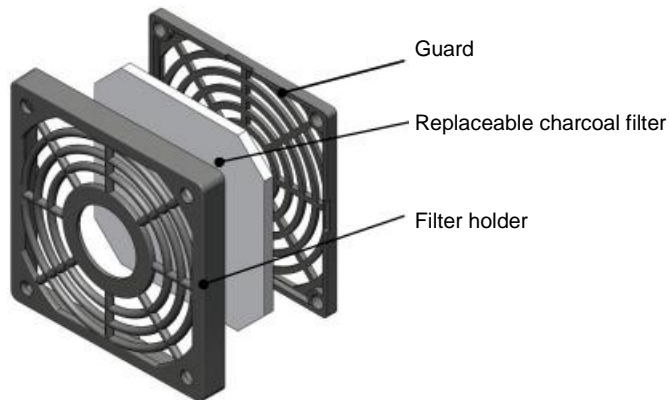

Fig. 1. Filtering cartridge block
- 5.5. Air flow is filtered at recirculator input. For this purpose, recirculator is equipped with a special filtering cartridge block with replaceable filter (see Fig. 1). Block consists of guard, replaceable filter and filter holder. Block is installed on recirculator end wall using screws.